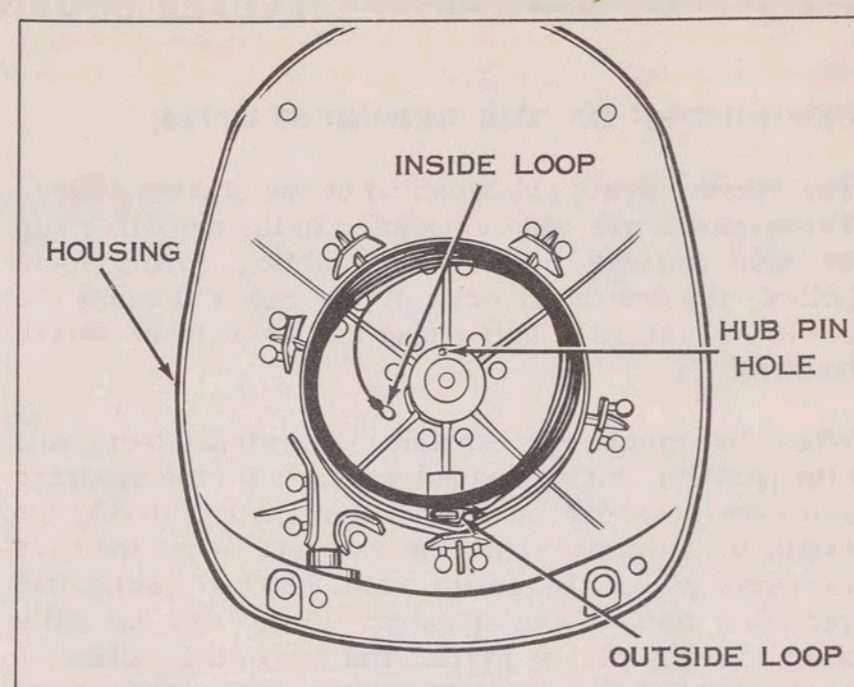

Figure 7-4. Installing Starter Spring
a. Place outer loop of starter spring over post in housing and wind spring in a counterclockwise direction until it fits down into housing. (See figure 7-4.)